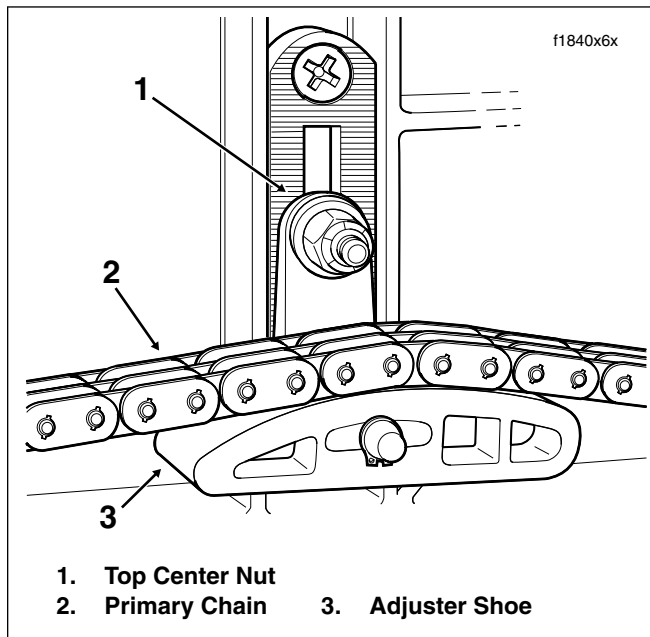

Figure 6-15. Primary Chain Tensioner Assembly
9. Loosen top center nut from captured bolt of chain tensioner assembly. See Figure 6-15. Lower the chain tensioner assembly as required, so that the adjuster shoe rests flat on casting of primary chaincase.